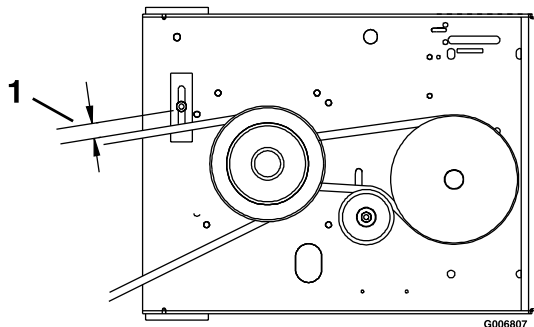
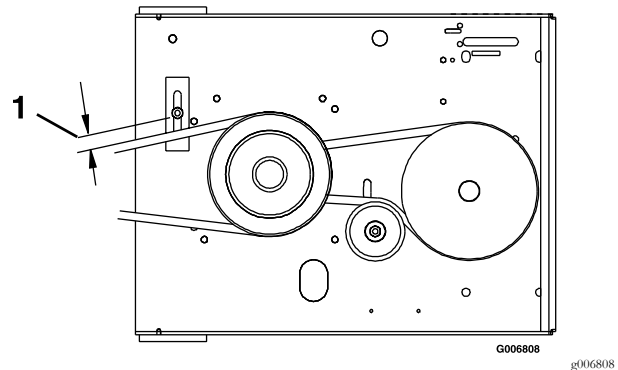

Figure 17
Figure 18
- Check belt guide under the engine deck for proper adjustment (See Figure 17 and Figure 18). Adjust as necessary.